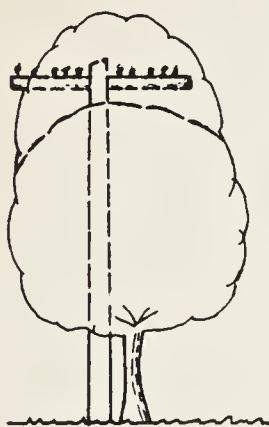

Figure 1
4.1 The best trimming is that which leaves the tree most natural in appearance. There are four main types of trimming for clearance: (1) topping, (2) side trimming, (3) under trimming, and (4) through trimming. Proper shapes are illustrated in figures 1, 2, 3 and 4 of Exhibit A. Leave trees symmetrically shaped.